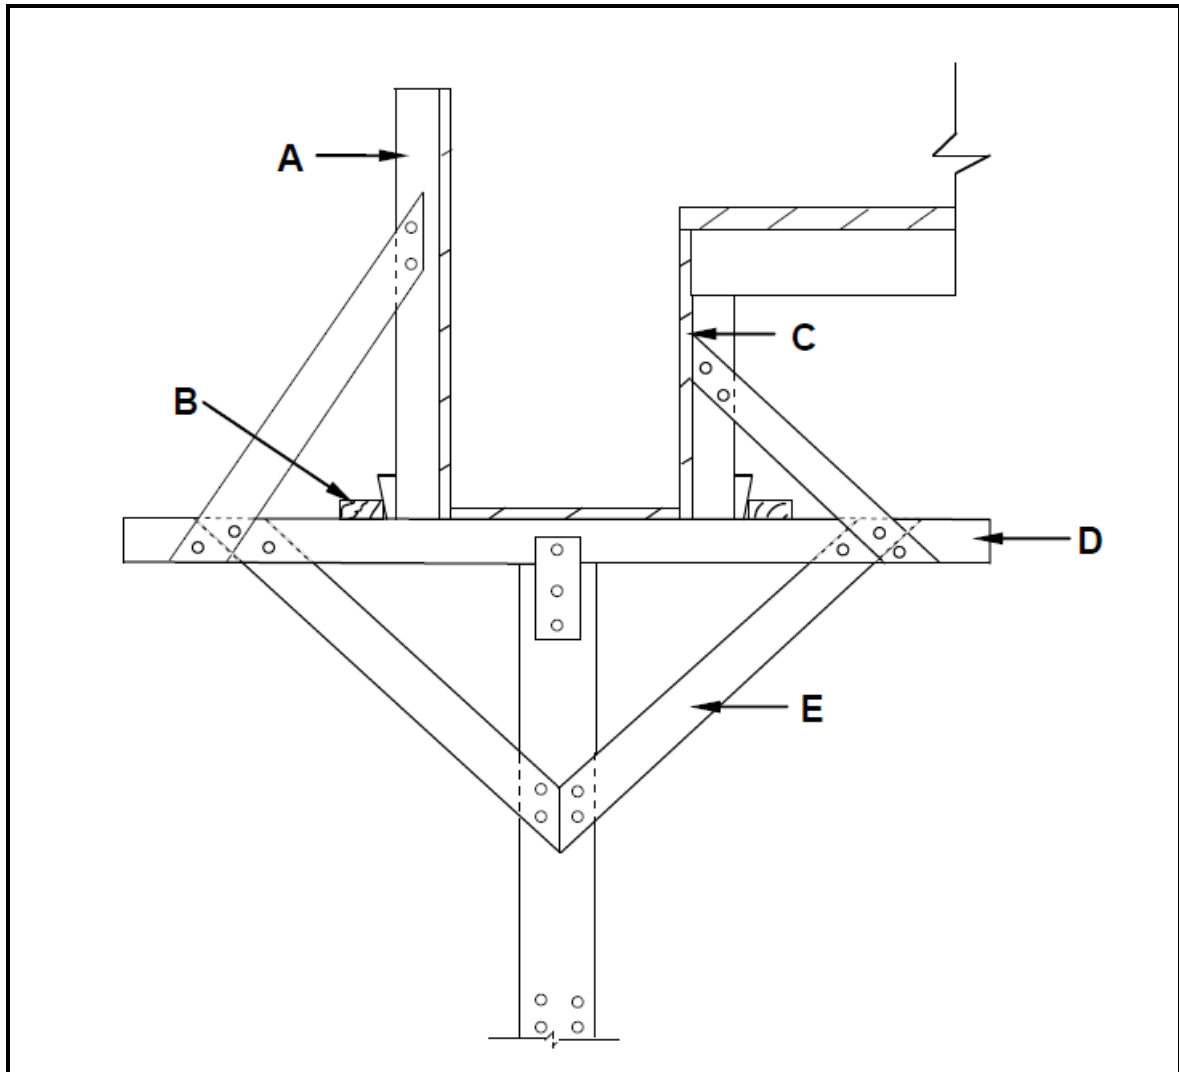

FIGURE 4.6
4.6 FIGURE 4.6 below shows formwork in a construction process. Study the drawing and answer the questions that follow.